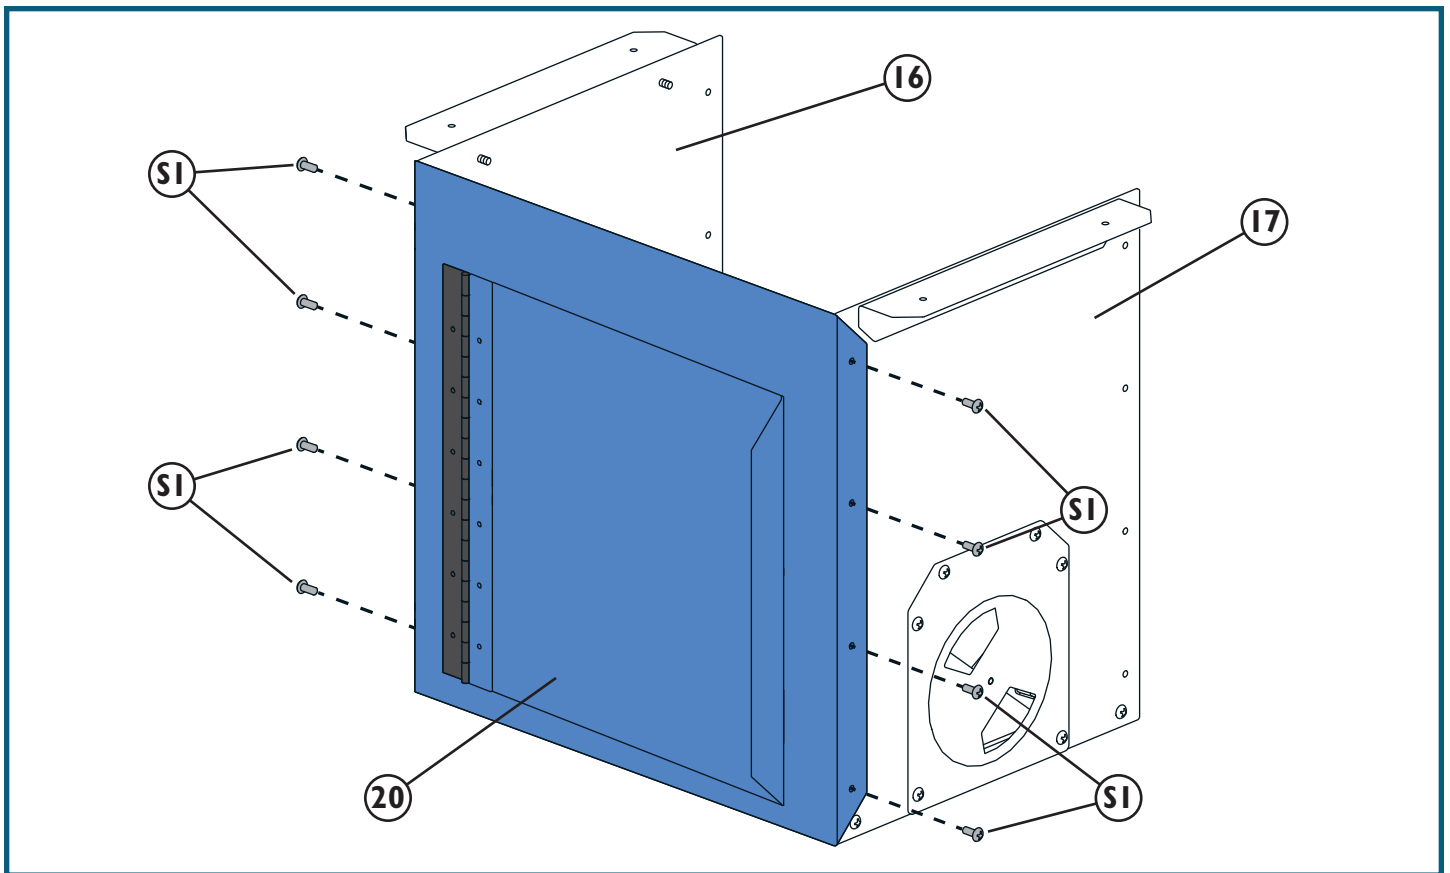

Fig. 12
4. Position the Dust Bucket Left and Right Side Panels (16 and 17) inside the side flanges of the Dust Bucket Front Panel (20) and attach them with four M4 x 3/8" Pan-Head Self-Tapping Screws (6) on each side. **Fig. 12.**